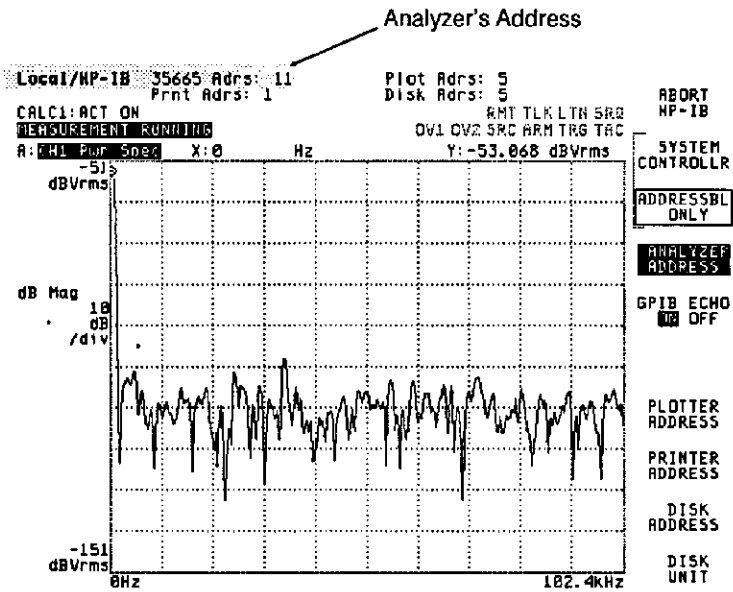

Figure 1-3. HP 35665A Screen After Pressing
4. Verify that the analyzer's address is set to 11. The current address setting is displayed when you press the [ANALYZER ADDRESS] softkey (see figure 1-3). You can change the address by pressing [ANALYZER ADDRESS], then using the numeric keypad and the [ENTER] softkey to enter a new value. However, the instructions in the verification procedure assume that the analyzer address is set to 11.